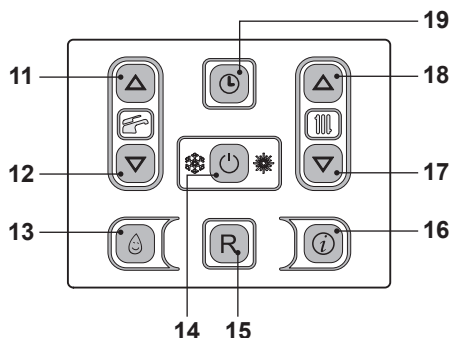
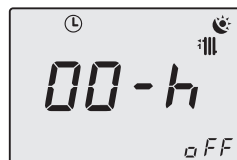

Fig. 2.19
Fig. 2.20
Enter the "timed manual heating function programming menu" by pressing keys 17 and 18 (Fig. 2.19) at the same time for 2 seconds until the symbols shown in Fig. 2.20 appear on the LCD display.
Press key 14 (Fig. 2.19) to modify the function status:
Press keys 11 or 12 (Fig. 2.19) to modify the time interval governing the forced heating function from a minimum of one hour to a maximum of 30 days.
To exit programming without making any modifications, press keys 17 and 18 (Fig. 2.19) at the same time for 2 seconds or wait for 60 seconds.
The function will end when the time set passes or when the function status is set to **"oFF"**. Hold down keys 17 and 18 (Fig. 2.19) at the same time for 2 seconds until the remaining time and the status of the function in progress appears on the LCD display.
Press key 14 (Fig. 2.19) to modify the function status when in **"oFF"**.
To exit programming without making any modifications, press keys 17 and 18 (Fig. 2.19) at the same time for 2 seconds or wait for 60 seconds